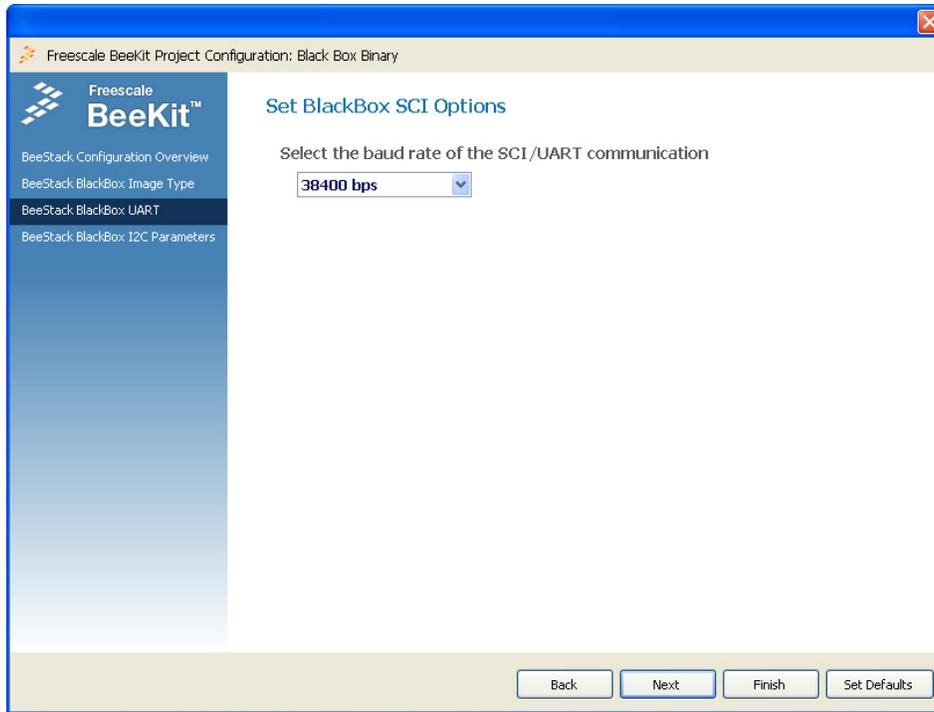

Figure 8-4. UART Settings Window
10. Click on the Next Button. The BlackBox connection settings window appears. This window shows the connection parameters specific to the selected communication interface (UART or I2C). If a UART based image was selected, the connection settings window allow users to set the UART baud rate, as shown in Figure 8-4.